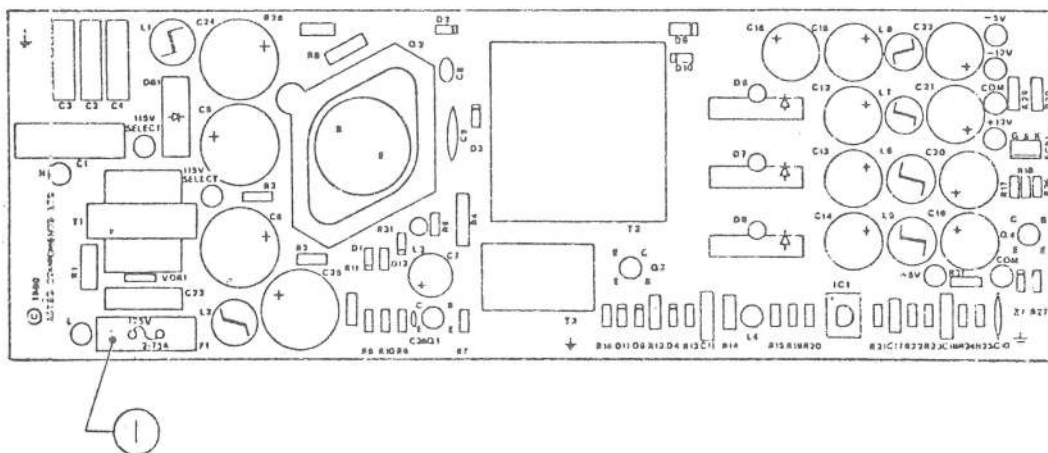

FIGURE 9
IPL.11	Power Supply Fuse (Figure 9)
□ POWER SUPPLY FUSE (Figure 9)